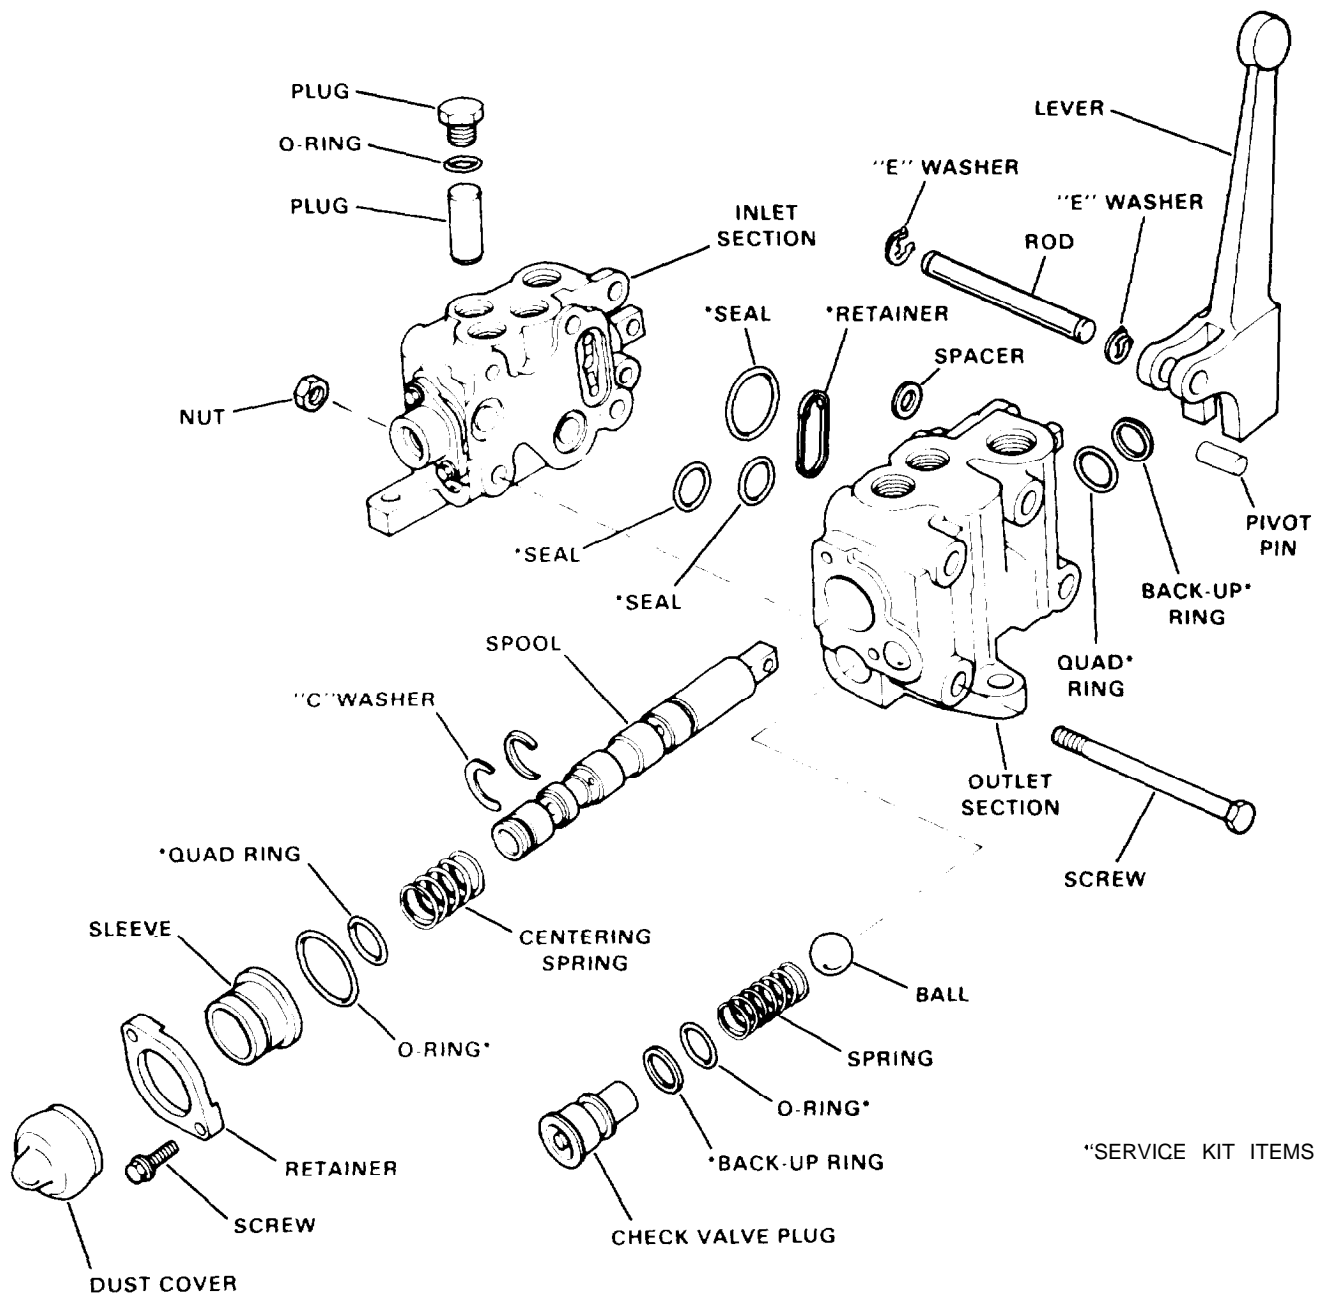

Figure 5C-4. Control Valve (36Z1077)
**ASSEMBLY.** To assemble the valve, proceed as follows (see Figure 5C-4):